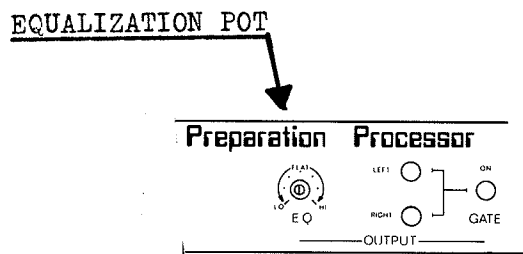

FIGURE 3-3 EQUALIZATION POT
3.1.3 Equalization Pot (Figure 3-3)